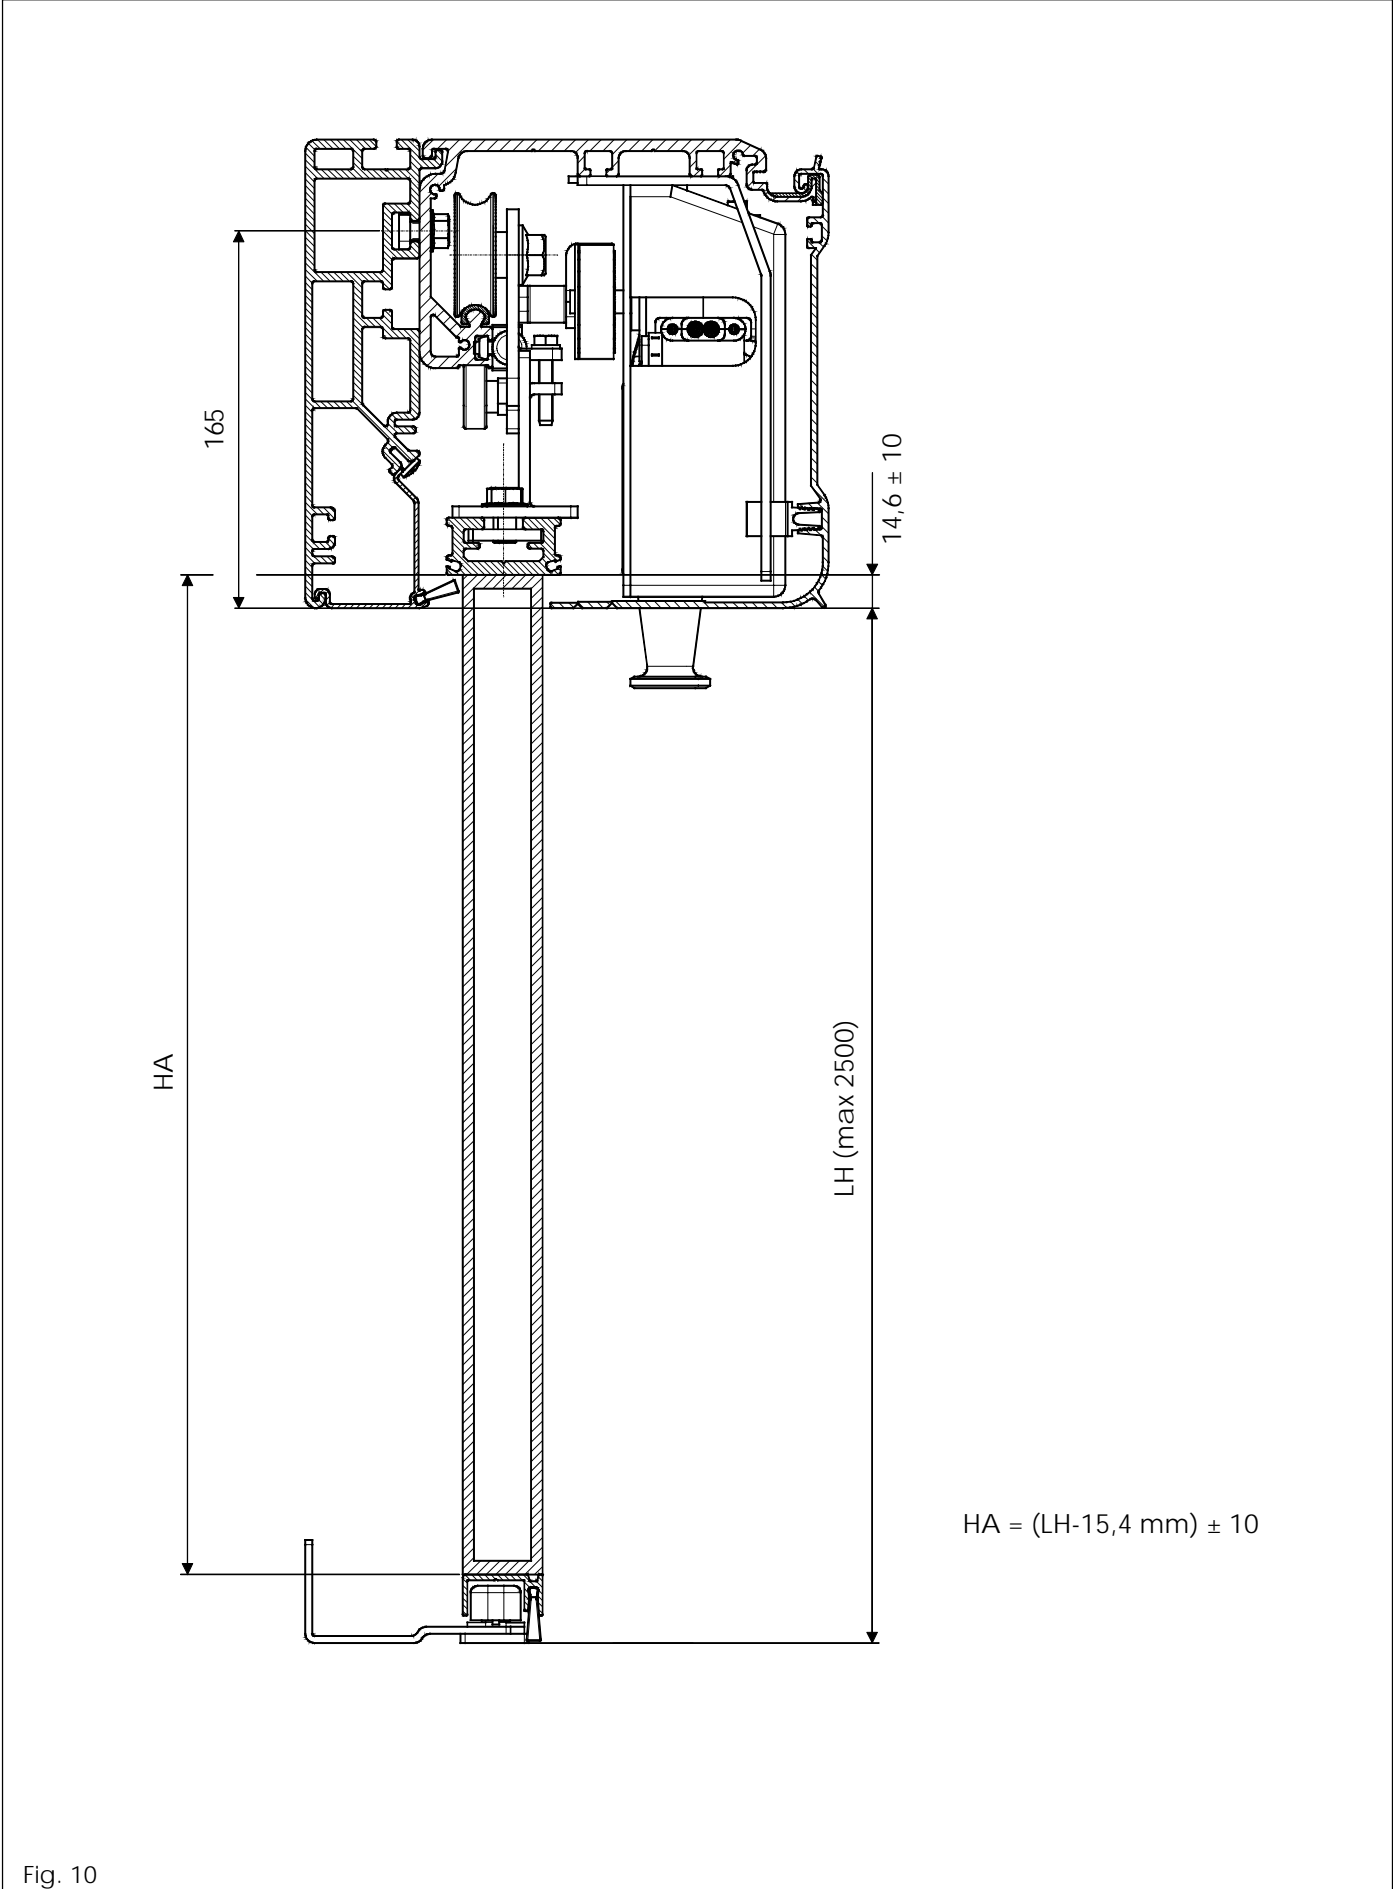

Fig. 10
- Establish the exact location of the free-standing profile considering the overall dimensions in figs. 10 and 11. The head profile must be fixed parallel to the floor.